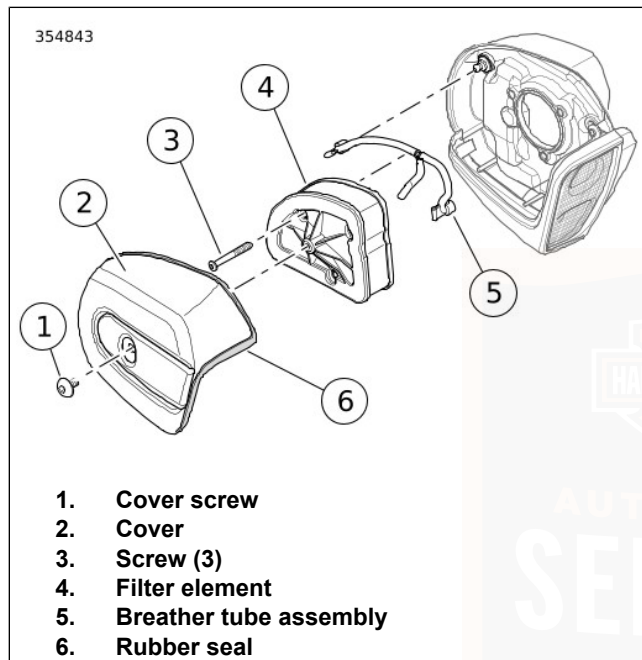

Figure 77. Air Cleaner Assembly
1. See Figure 77. Remove screw (1) and air cleaner cover (2) with rubber seal (6).
2. Remove three screws (3).
3. Remove filter element (4) pulling breather tube from hole on inboard side.
4. Remove breather tube (5) from breather bolts.
1. See Figure 77. Install breather tube (5) onto breather bolts.
2. Install filter element (4) while pushing breather tube into element.
3. Install screws (3). Tighten screws to 4.5–6.8 N·m (40–60 in-lbs).
4. Verify that rubber seal (6) is not damaged and is properly seated around perimeter of air cleaner cover.
5. Place air cleaner cover onto backplate. Apply a drop of **LOCTITE 243 MEDIUM STRENGTH THREADLOCKER AND SEALANT (blue)** to the threads of screw (1). Install screw. Tighten to 4.1–6.8 N·m (36–60 **in-lbs**).